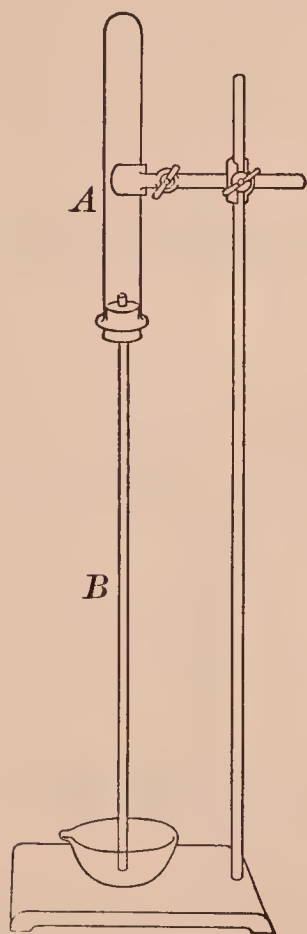

FIG. 11.—Apparatus
**APPARATUS.** — As in Fig. 11, iron pan (or brick).
*(a)* Construct an apparatus as shown in Fig. 11. Wet the inside of the test tube *A*, drop in clean iron filings, and roll the test tube to make the filings stick. Insert the stopper with the long tube *B*, invert, and clamp the test tube *A* to the iron stand so that the open end of the tube *B* is just above the bottom of the dish filled with water (Fig. 11). Let the whole apparatus stand undisturbed for an hour or two. Then note the height of the water in the long tube.